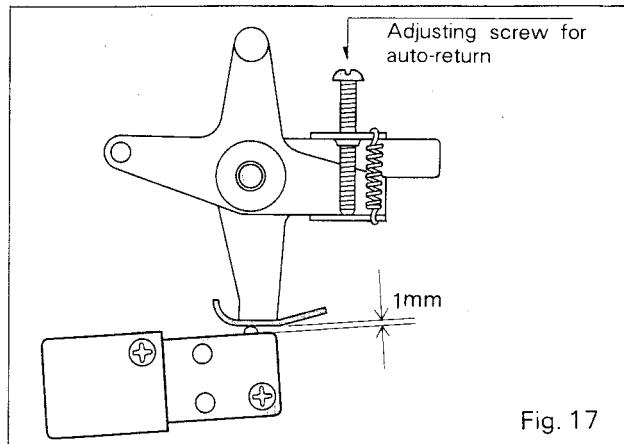

Fig. 17
- (1) Make sure the tone arm fixing plate is properly installed as shown in Fig. 17.
- (2) Put on a record and let the stylus drop slightly outside the end groove or 65 – 70 R from the center of the turntable. When the record ends, make sure the tone arm automatically returns from any of the following positions:
- (3) If the tone arm does not automatically return from all of the above positions, turn the adjusting screw in Fig. 17 to adjust the tone arm return position.
- Yes: Rotate adjusting screw (Fig. 17) of tone arm fixing plate counter-clockwise.
Rotate adjusting screw (Fig. 17) of tone arm fixing plate counter-clockwise.
Rotate adjusting screw (Fig. 17) of tone arm fixing plate clockwise.
- Yes: Adjust the clearance between the knob of microswitch and tip of tone arm fixing plate to 1 mm. (Fig. 17)